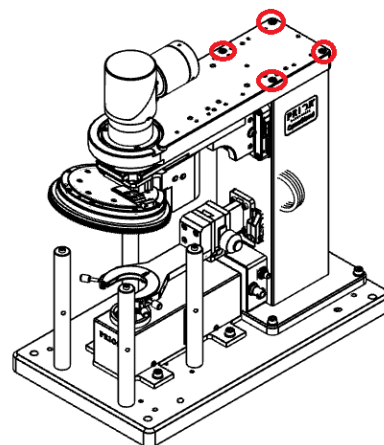

Figure 3 : Removing the binocular arm
1. Please remove the 4 x M5 screws (circled in red in Fig 3) on the binocular arm. Ensure one of them hold the binocular arm while the other remove the screws.